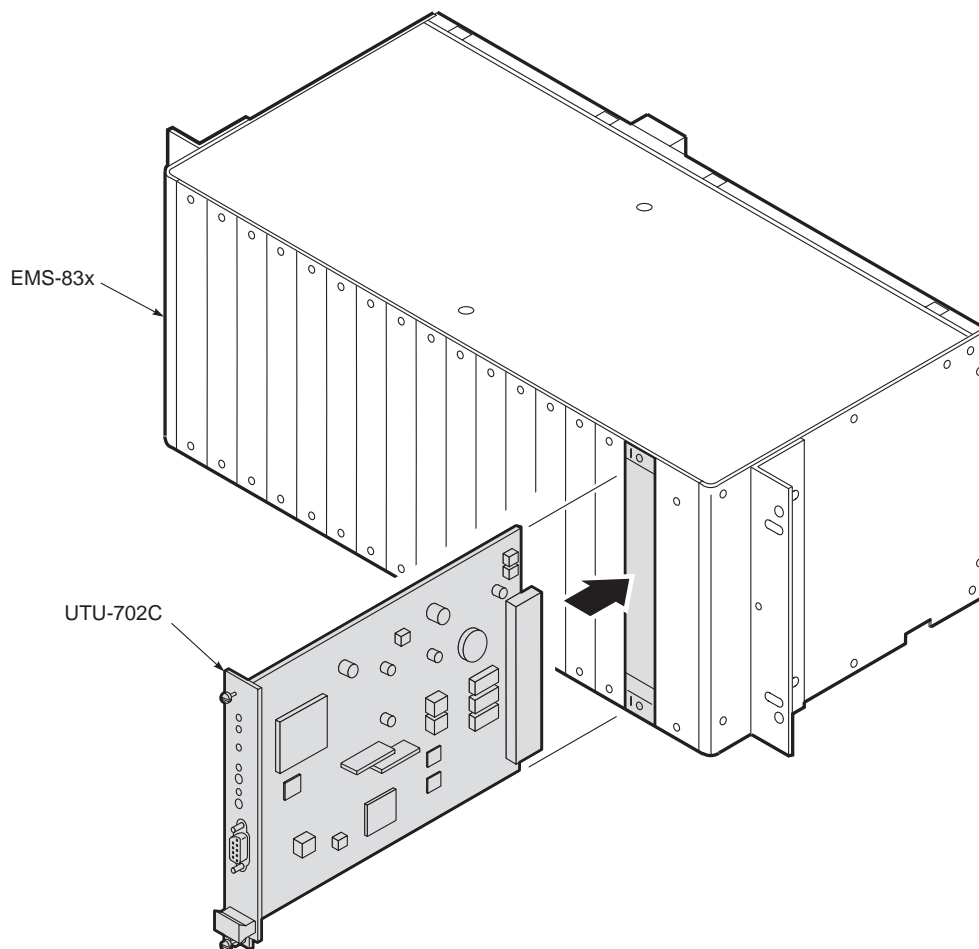

Figure 11. Installing the UTU-702C Line Unit
- 1 Align the UTU-702C with the card guides in the shelf or enclosure (see Figure 11).